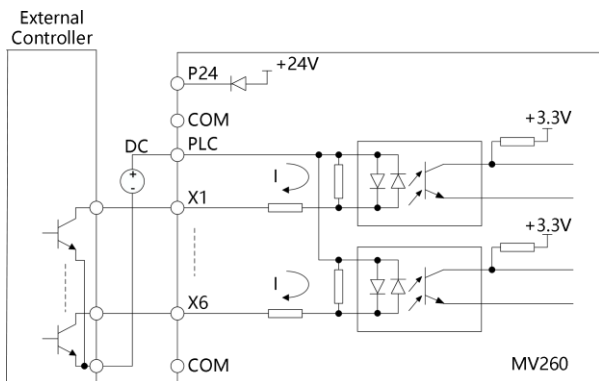

Fig.3-15 The source connecting mode when using the external power supply
③ The source connecting mode when using the external power supply (Note: be sure to remove the short circuit plate between the user terminal PLC and P24) is as shown in Fig.3-15.